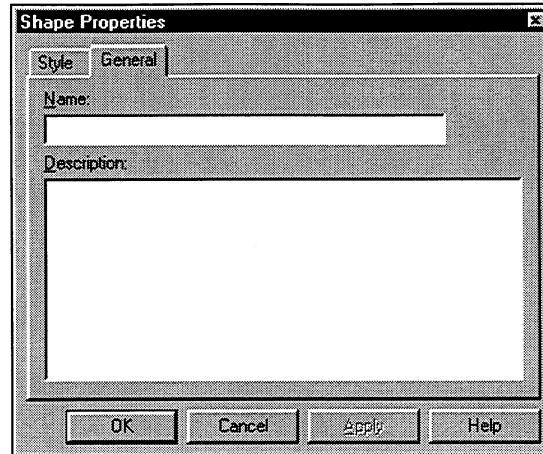

Figure 6-20. General Properties Page
3. Click on the General tab to access the General Properties page, as shown in Figure 6-20.